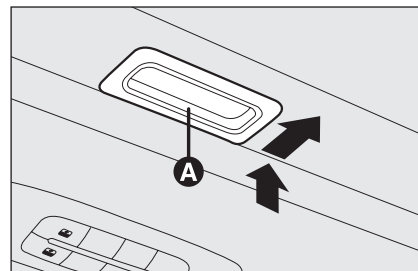

fig. 68
When in wide open position, press button **A**-fig. 68 for over half a second to set the front pane to the “spoiler” position; press the button again to stop the sunroof at an intermediate position; press button **A**-fig. 68 again and keep it pressed to close the sunroof completely.
- press button **A-fig. 68** at close position;